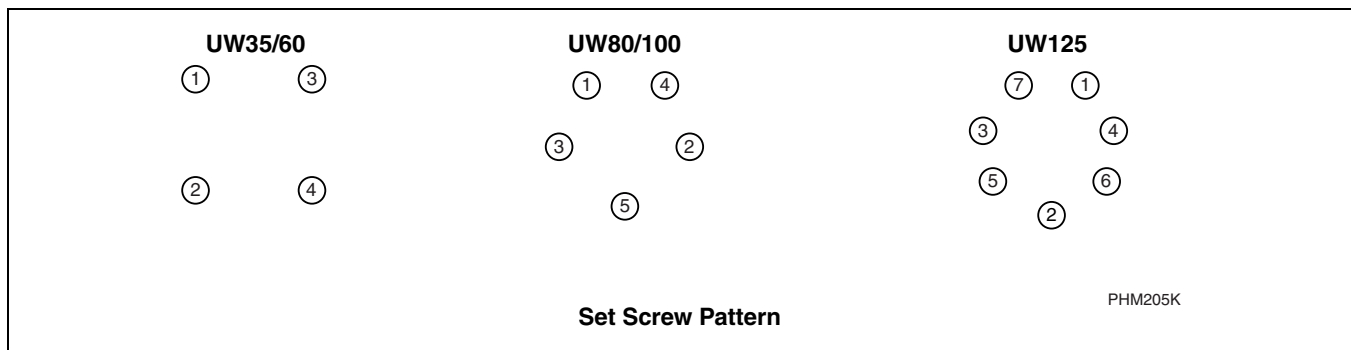

Figure 34
- r. **Snug the Rear Bearing:** Using a short 3mm Allen wrench, tighten the mounting side set screws on the rear bearing until only two threads on each screw are visible. Alternate in 1/2 turn increments according to the pattern shown in *Figure 34*. Ensure that the mounting collar still rotates freely.
- s. **Snug the Front Bearing:** Using a short 3mm Allen wrench, tighten the mounting side set screws on the front bearing until only two threads on each screw are visible. Alternate in 1/2 turn increments according to the pattern shown in *Figure 34*. Ensure that the mounting collar still rotates freely.